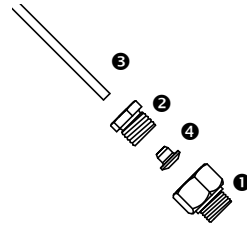

Figure 2
For each end of the capillary tube start by mounting the big nut with the gasket (1) in the valve and proceed as shown in figure 2. Pull the small nut (2) onto the copper tube (3) with the thread toward the end of the tube, and then push the cutting ring (4) onto the tube as far as possible. Push the copper tube into the hole of the big nut and screw the small nut into the big nut with a wrench using 12-15Nm.